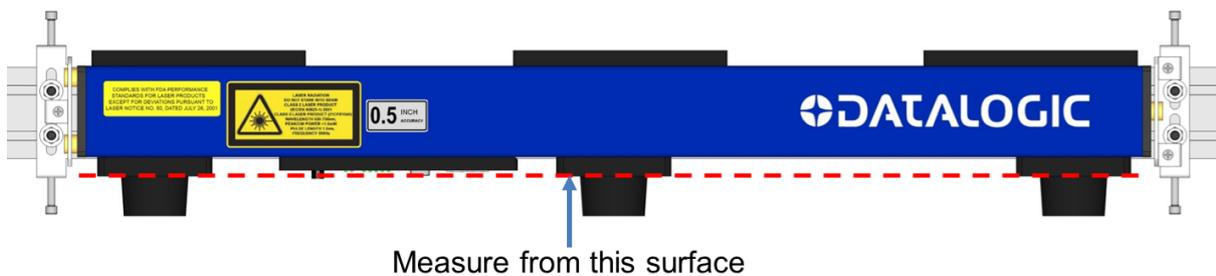

Figure 106: Height Reference
1. Make sure the RangeFinder is mounted at the correct height (typically 1924 mm [75.75 in] from the left and right laser housings to the conveyor belt. See *Figure 106: Height Reference*.)